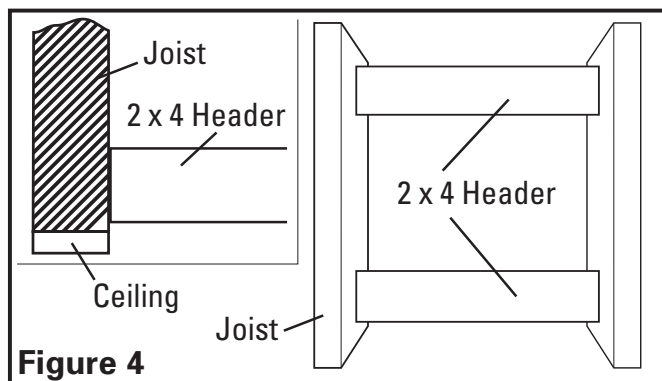

Figure 4
- 1c. **Installation on 24" Centers Joists or Larger than 2x6 Joists on 16" Centers:** Install two - 2x4 headers (not included) between the joists (**Figure 4**). Install the mounting brackets through the top set of slots on the fan housing and secure in place with the four included #10-32 nuts as shown. Position the fan housing between the headers and secure the mounting brackets with screws or nails (not included) to the header. Adjust the height of the housing so that it is flush with the finished ceiling by loosening the mounting bracket nuts and sliding the housing up or down on the bracket. Fully tighten all four nuts to secure the housing in place (**Figure 5**).